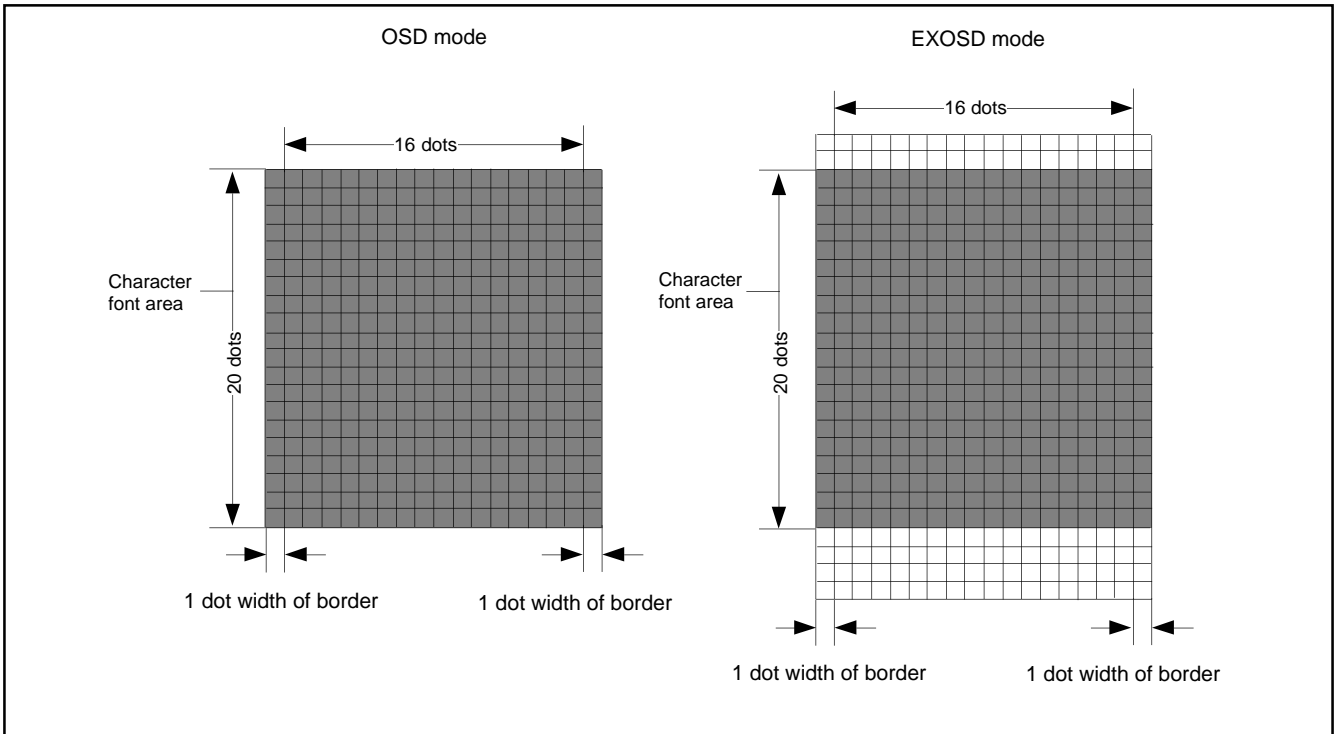

Fig. 90. Border Area
**2 :** The border dot area is the shaded area as shown in Figure 90. In the EXOSD mode, top and bottom of character font display area is not bordered.